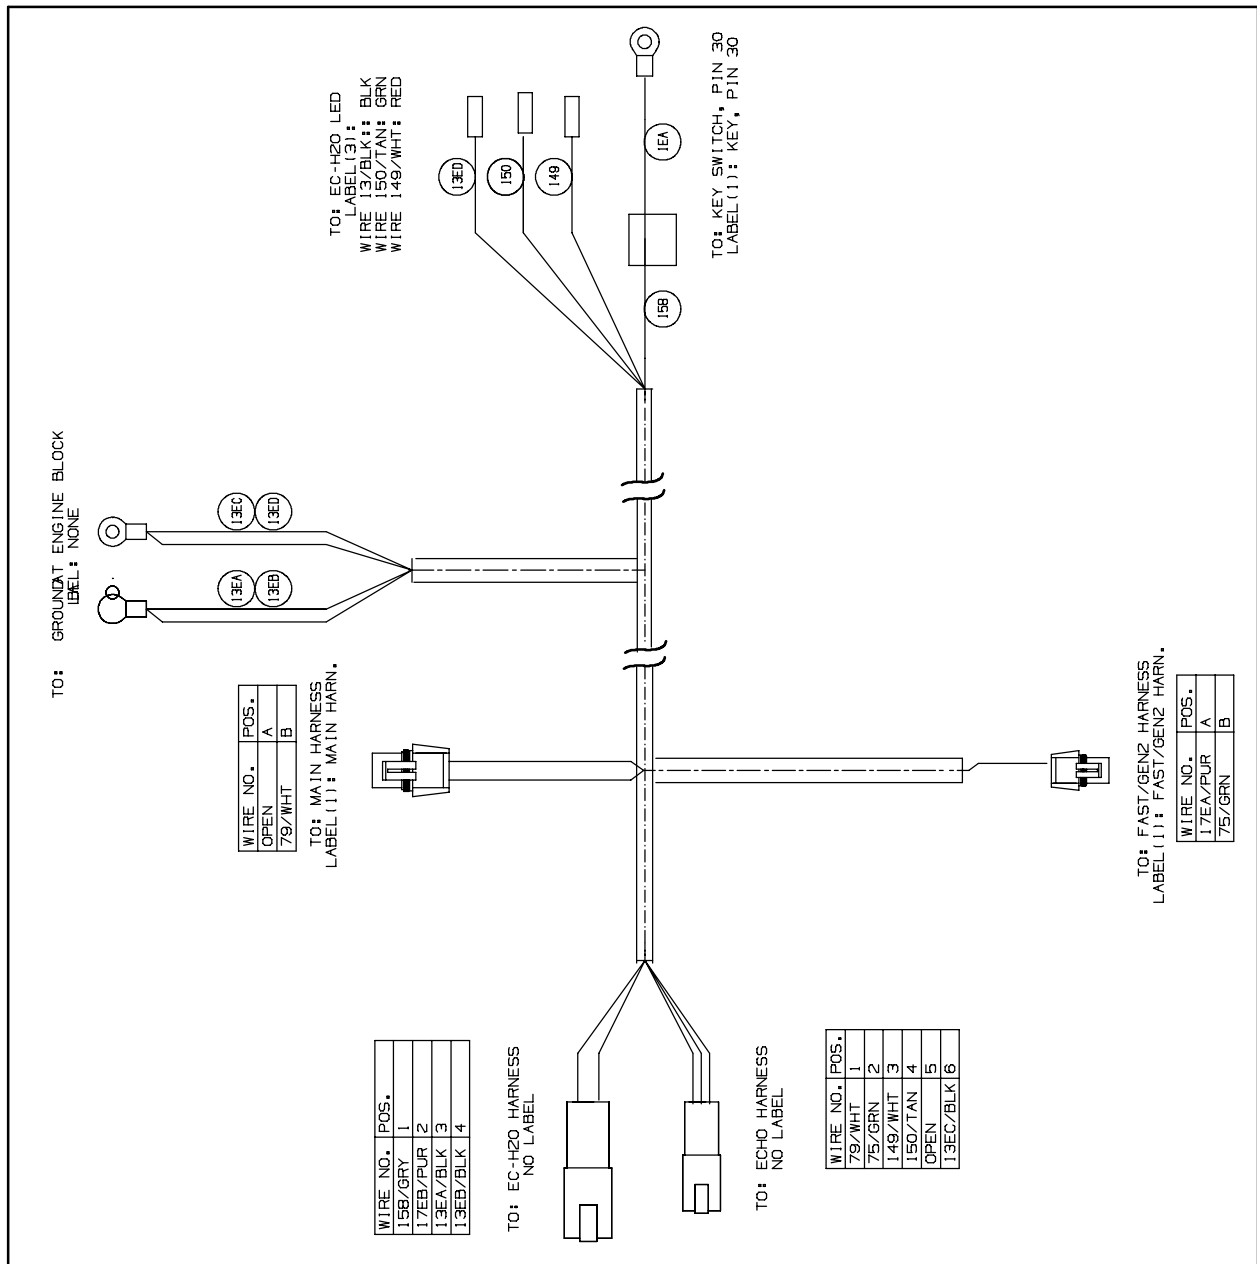

FIG. 8
30. Route the *ec-H20* harness ground lead to the engine ground and connect the ground lead to the engine ground. Refer to Fig. 8.
33. Slide the *ec-H20* harness ignition switch lead through the bottom of the boot and connect the ignition lead to the PIN 30 terminal on the ignition switch. Refer to Fig. 8.
35. Connect the *ec-H20* harness to the LED light. Refer to Fig. 8.
43. Connect the *ec-H20* harness to the *ec-H20* assembly. Refer to Fig. 8.